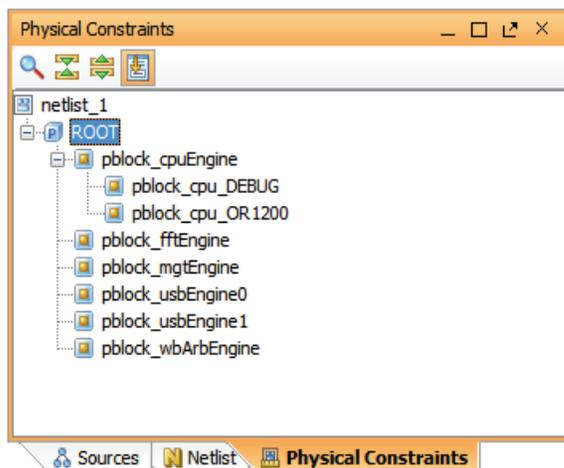

Figure 7-5: Physical Constraints View with ROOT Selected
1. Select either the ROOT Pblock or any Pblock in the Physical Constraints view. Figure 7-5, page 214 shows a selected ROOT Pblock.